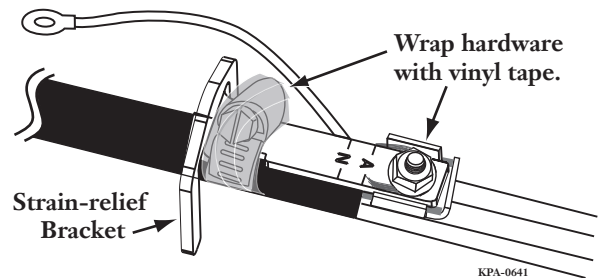

Figure 6
**Step 1:** Place a hose clamp over the cable in the notch of the bracket (Figure 6). Position the end of the sheath at the appropriate mark on the bracket.
**Step 2:** Tighten the hose clamp in the notch on the bracket with the tensioning body on the hose clamp as shown (Figure 6). Tighten hose clamp securely to a torque value of 30 in-lb. Wrap hose clamp and bonding hardware, if installed, with vinyl tape as shown in (Figure 6).